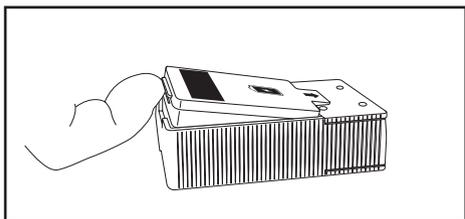

Figure 6
- a. At the end of the battery opposite the connector, you will feel a thin protruding hard tab on the battery (Figure 6). Lift the battery by inserting finger under the tab and gently pulling up just enough so you can insert the tip of your finger under the battery. **Do not attempt to lift batteries by grasping the battery's foam cushion as it could tear.** Do not lift the battery more than is required to insert a finger underneath the battery to grasp it.